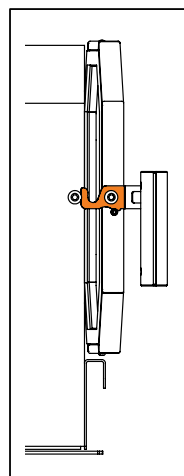

Figure 6. Door position
- During the pre-installation heating, keep the door slightly open. Do not close the door at any stage during the first heating. (See Figure 6.)